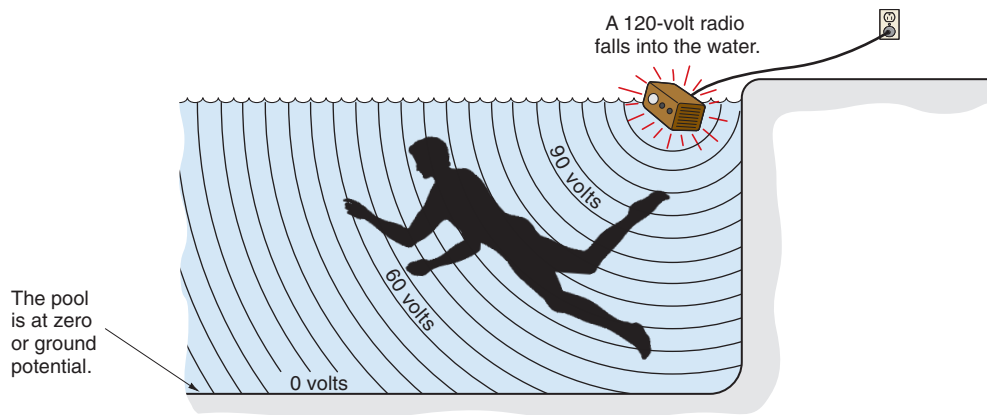

FIGURE 30-2 Voltage gradients surrounding a person in the pool can cause severe shock, drowning, or electrocution. (Delmar/Cengage Learning)
2. *Indirect contact:* An electrical shock can be lethal to someone in a pool if the person is merely in the water when voltage gradients in the water are present. This is illustrated in Figure 30-2.
As shown in Figure 30-2, “rings” of voltage radiate outward from the radio to the pool walls and bottom of the pool. These rings can be likened to the rings that form when a rock is thrown into the water. The voltage rings or gradients range from 120 volts at the radio to zero volts at the pool walls and bottom. The pool walls and bottom are assumed to be at ground or zero potential. The gradients, in varying degrees, are found throughout the body of water. Figure 30-2 shows voltage gradients in the pool of 90 volts and 60 volts. This figure is a simplification of the actual situation in which there are many voltage gradients. In this case, the voltage differential, 30 volts, is an extremely hazardous value. The person in the pool immersed in these voltage gradients is subject to severe shock, immobilization (which can result in drowning), or actual electrocution. Tests conducted over the years have shown that a voltage gradient of 1½ volts per foot can cause paralysis.
Grounding and bonding together all metal parts in and around pools ensures that these metal parts are at the same voltage potential to ground, greatly reducing the shock hazard. Stray voltage and voltage gradient (see Figure 30-2) problems are kept to a minimum. Proper grounding and bonding also facilitates the opening of the overcurrent protection devices should a fault occur in the circuit(s).